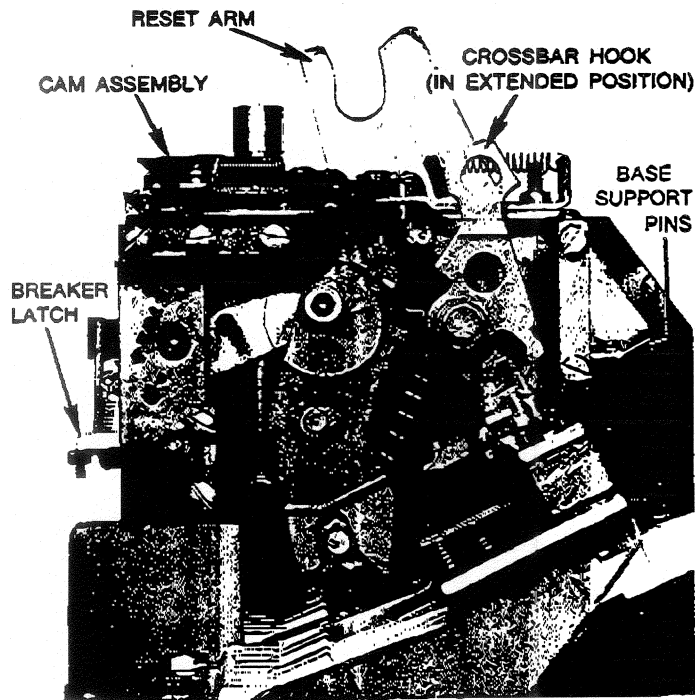

Fig. 5. Cam and contact assembly as viewed through side of inner cover.
- a. Lower the motor end of the mid-cover onto the support pins of the mechanism. See Fig. 5.